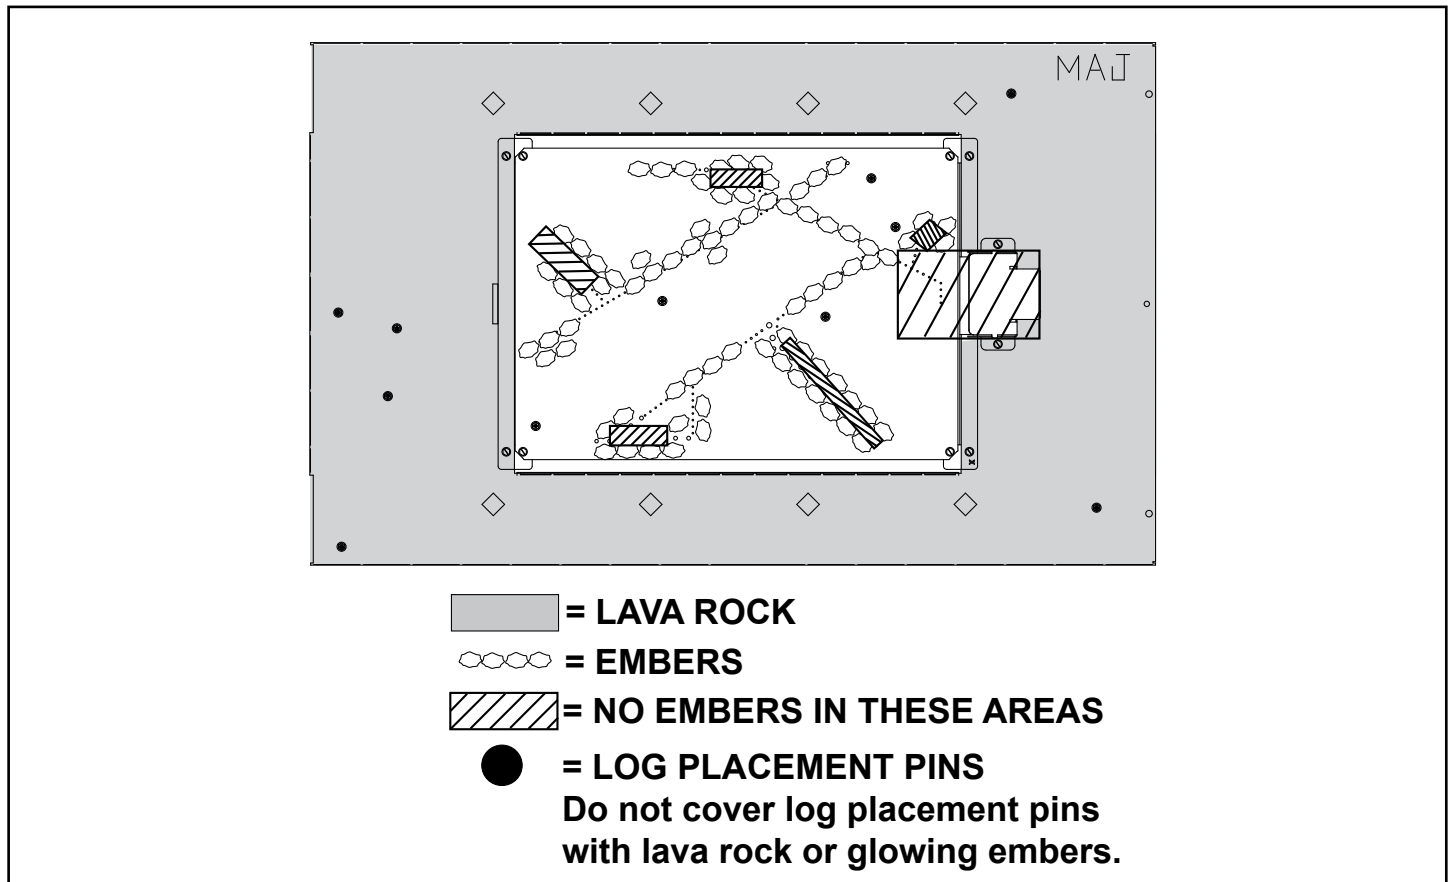

Figure 11.13 Placement of Embers
Place lava rock and glowing embers as shown in Figure 11.13.
- Embers may only be placed in areas as shown in Figure 11.13. Care should be taken not to cover the lighting trail of ports near pilot assembly as shown in Figure 11.13.
- When placing Glowing Embers® onto the burner, care should be taken so that the ports are not covered. Place the dime-size ember pieces. See Figure 11.13. Failure to follow this procedure will likely cause lighting and sooting problems.